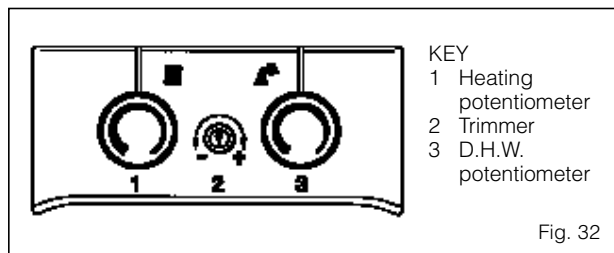

Fig. 32
- remove the retaining spring, completely withdraw the modulator (4) and loosen the locking nut (2);
- tighten the screw (3) and set the knob of the D.H.W. potentiometer to the maximum value (3, Fig. 32).
- using a \varnothing 12 spanner, turn the union (1) to arrive at the maximum pressure value given in Table 8: to reduce the pressure, turn the union counterclockwise; to increase the pressure, turn it clockwise;
- once setted the pressure value tighten the locking nut (2) and replace the modulator (4) in position;
- withdraw the modulator (4);
- set the knob of the D.H.W. potentiometer to the maximum value (3, Fig. 32);
- remove the plastic cap (1);
- using a $\varnothing 10$ spanner, turn the nut (3) to arrive at the maximum pressure value given in Table 8: to reduce the pressure, turn the nut counterclockwise; to increase the pressure, turn it clockwise;
- disconnect the electric power and remove the plastic cap on the modulator (1);
- using a $\varnothing 9$ spanner, turn the nut (2) to arrive at the minimum pressure value given in Table 8: to reduce the pressure, turn the nut counterclockwise; to increase the pressure, turn it clockwise;
To adjust boiler heat output for heating purposes, i.e., modifying the setting made at the factory, which is approximately 16 kW in the “20” vers. , 18 kW in the “25 CE - 25 CE IONO” vers. and 19 kW in the “25 BF CE IONO” vers. use a screwdriver to adjust the heating heat output trimmer (2, Fig. 32).